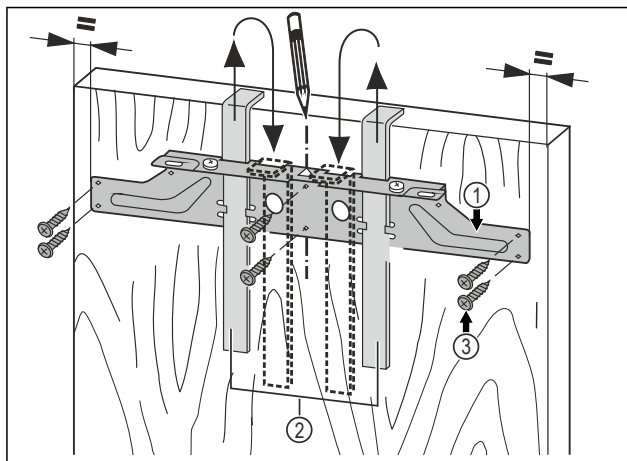

Fig. 44
- Hang the fastening bar Fig. 44 (1) with the mounting aids on the inside of the unit door Fig. 44 (2).
- Align the fastening bar Fig. 44 (1) in the centre of the door.*
- Tighten the mounting bar Fig. 44 (1) with at least 6 screws Fig. 44 (3).
- Screw the mounting bar Fig. 44 (1) to the edge with 4 screws Fig. 44 (3).
- Pull the assembly devices Fig. 44 (2) upwards and push them, at an angle, into the receiving openings.